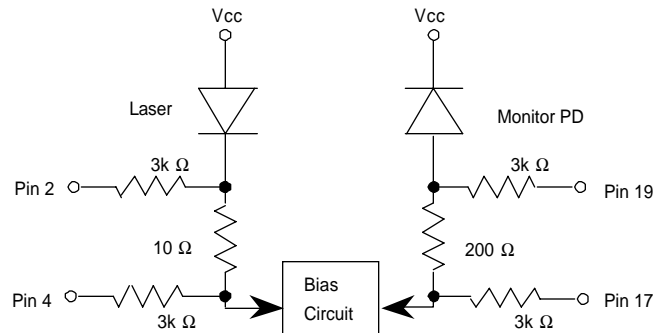

Figure 3 Monitor Circuit Schematic Diagram
Note 1. Input bias current is not included. 2. 50% duty cycle data 3. 622.08Mbps 4. Vcc-Vee=5.0V 5. Tc=25°C 6. 20~80% 7. The transmitter is enabled as default state and requires an external voltage only to disable. (Refer to Section 9. Relation between Disable Input Voltage and Optical Output Power ) 8. The Laser Bias and Rear Facet Monitor currents are calculated as ratios of the corresponding voltages to their current-sensing resistors, 10Ω and 200Ω, respectively (See Figure 3). Upon measuring or utilizing these values, please use a device whose impedance is high enough (>1MΩ) compared with those resistors.
3. Please refer to Figure 3 for Pin 2, 4, 17, 19.